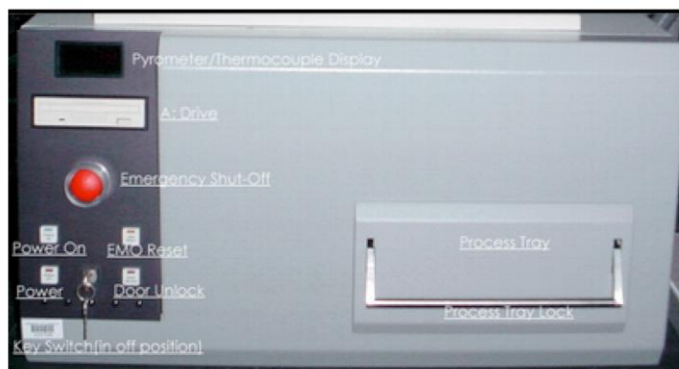

Figure 1. Front panel of the RTP
- c. Open the (3) gas lines labeled Argon, Oxygen and Nitrogen going to the RTP.
Step 2: On the front panel of the RTP, Figure 1, turn the key switch to the right.